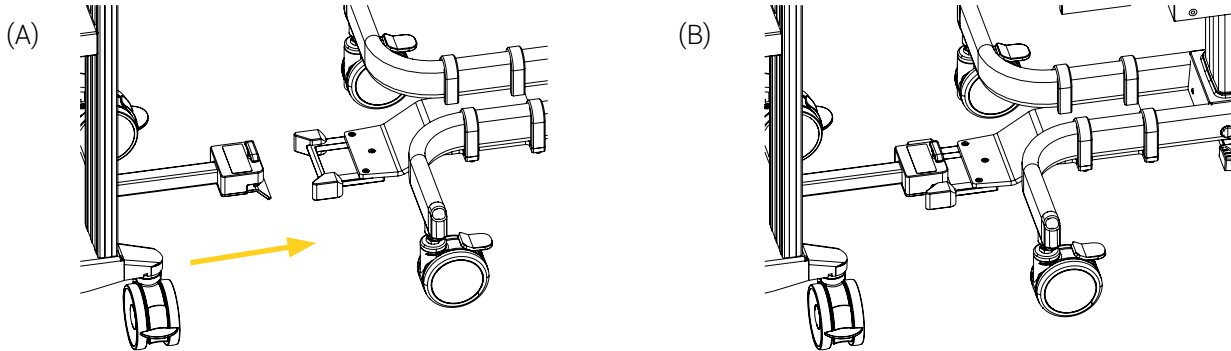

Figure 11 : Installation of the transport cart on the Babyroo TN300 incubator
5. Move to the side of the transport cart, then align the fold-up hitch with the THS coupling device located under the incubator (Figure 11 A).
6. Pull the transport cart towards the incubator until the THS coupling device is inserted and fully secured in the fold-up hitch locking mechanism (Figure 11 B).